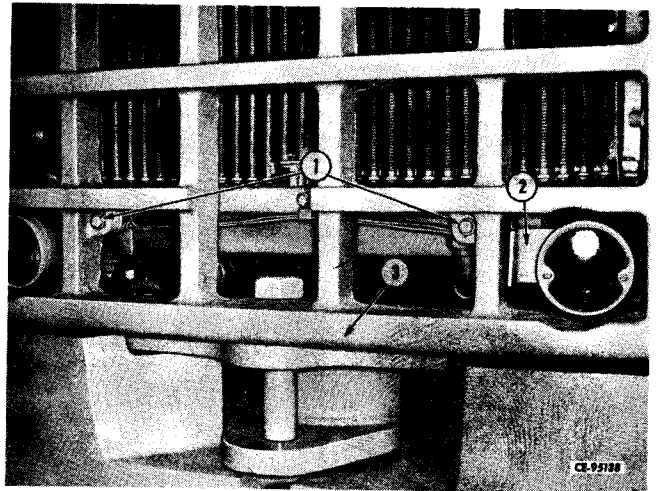

Figure 2-49
Connect tagged electrical wires to top rear driving lights (not shown). Connect electrical wires to stop lights before installing tail light brackets on grille (3, Fig. 2-49). Insert tail light brackets inside grille and secure with cap screws and nuts (1).